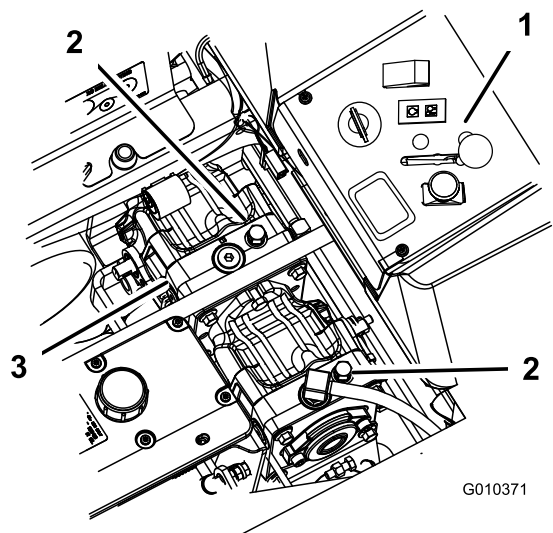

Figure 29
2. Rotate the by-pass valves counterclockwise 1 turn to push. This allows hydraulic fluid to by-pass the pump enabling the wheels to turn (Figure 29).
Rotate the by-pass valves clockwise 1 turn to operate machine (Figure 29).